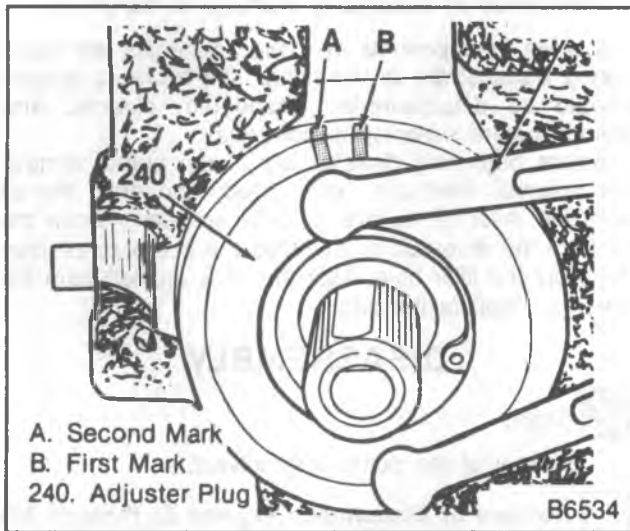

Figure 18—Aligning the Adjuster Hole with the Second Mark
- Rotate the adjuster to the left until the hole in the adjuster is in line with the second mark (figure 18).